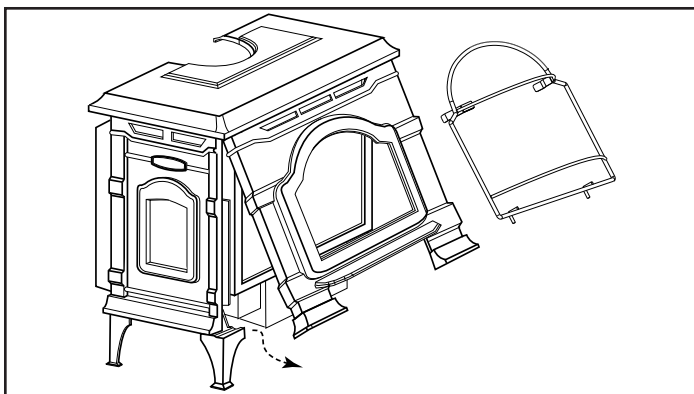

Figure 58 - Remove the stove front.
3. Lift the stove front up and then swing the bottom out to disengage it from the heater shell. (Figure 58)